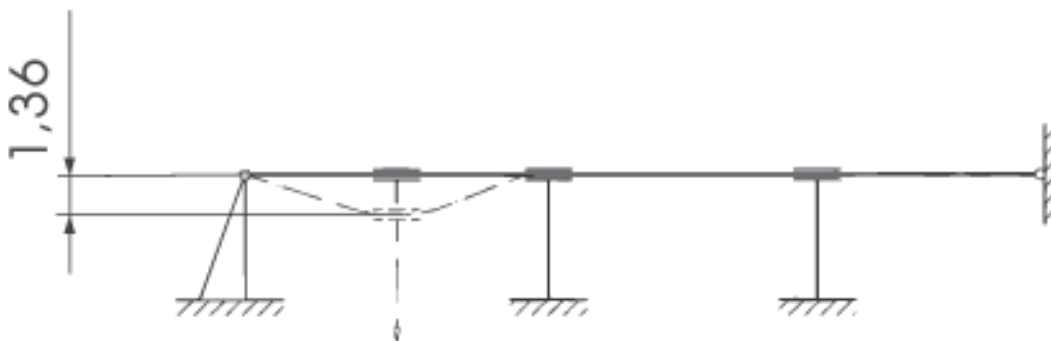

Figure A1 - maximum deflection of the anchorage device
- A 11. Determine the distance required between the Söll-Xenon anchorage device and the ground or an obstacle by taking into account the deflection of the rope which depends on the location of the anchorage device (overhead installation, on ground, ...) and the type and length of the coupling element (refer to the example). The maximum deflection of the rope is 1.36 m (see figure A1). Lower deflections must be substantiated with calculation in particular cases.